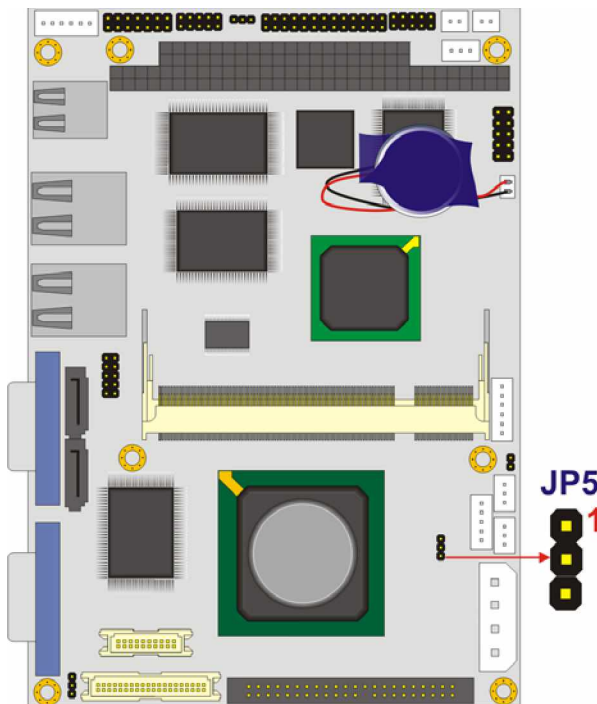

Figure 4-7: CRT/LCD Mode Selection Jumper Settings
- Jumper Settings: See **Figure 4-7**
The LVDS Voltage Selection jumper location is shown in **Figure 4-7**.